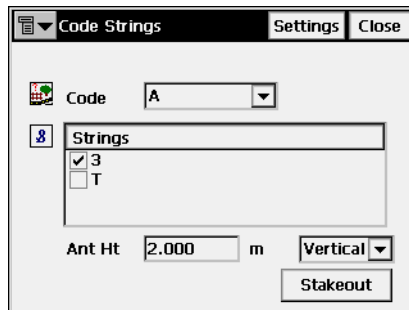

Figure 7-50. Code Strings
1. To stake out points with code strings, select **Stake ▶ Code String**. On the *Code Strings* screen (Figure 7-50), tap the **Settings** button and specify the Stakeout parameters as described in “Stakeout a Point” on page 7-2.
2. In the *Code Strings* screen, select a code from the drop-down list, and check necessary strings (Figure 7-50). To view the strings, click the *Strings* item in the bitmap menu. Specify the antenna parameters: the height value and type, or the height of the rod, based on whether in GPS+ mode or TS mode. tap **Stakeout**.